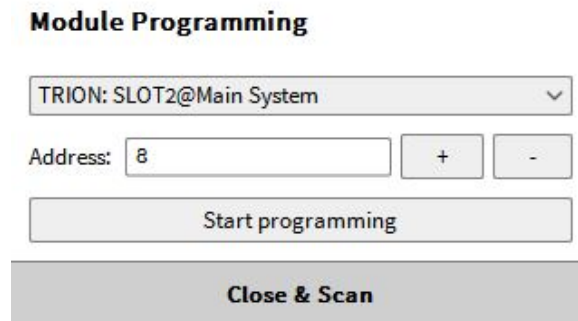

Fig. 4.43: Finish the module programming
- Keep the ID button of the DAQP/HSI module pressed until the *Address* increases. Repeat that procedure for all DAQP modules. After finished, press on *Stop programming* and close the window by pressing *Close & Scan* (see Fig. 4.43) or start the programming for a further Serial Port